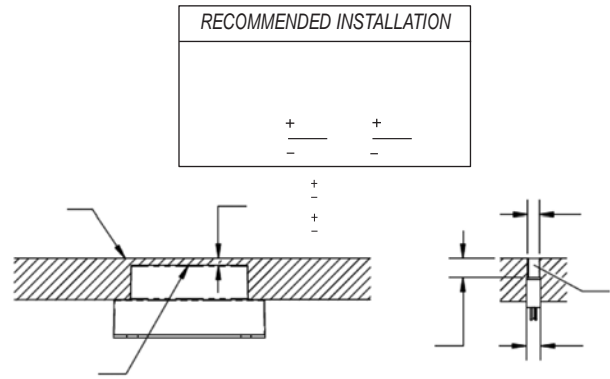

Figure 9
This Helios™ charger requires (4) #6 x 1-1/4" Phillips round-head wood screws (not included) to be inserted into the provided holes to hold the charger in place, assuming the work surface is 3/4 inch thick (see Figure 9). **Special consideration for the screw size must be taken by the installer. If your work surface thickness is a measurement other than 3/4" thick, use a screw length that will insure the screw does not pierce through the top of the work surface.**